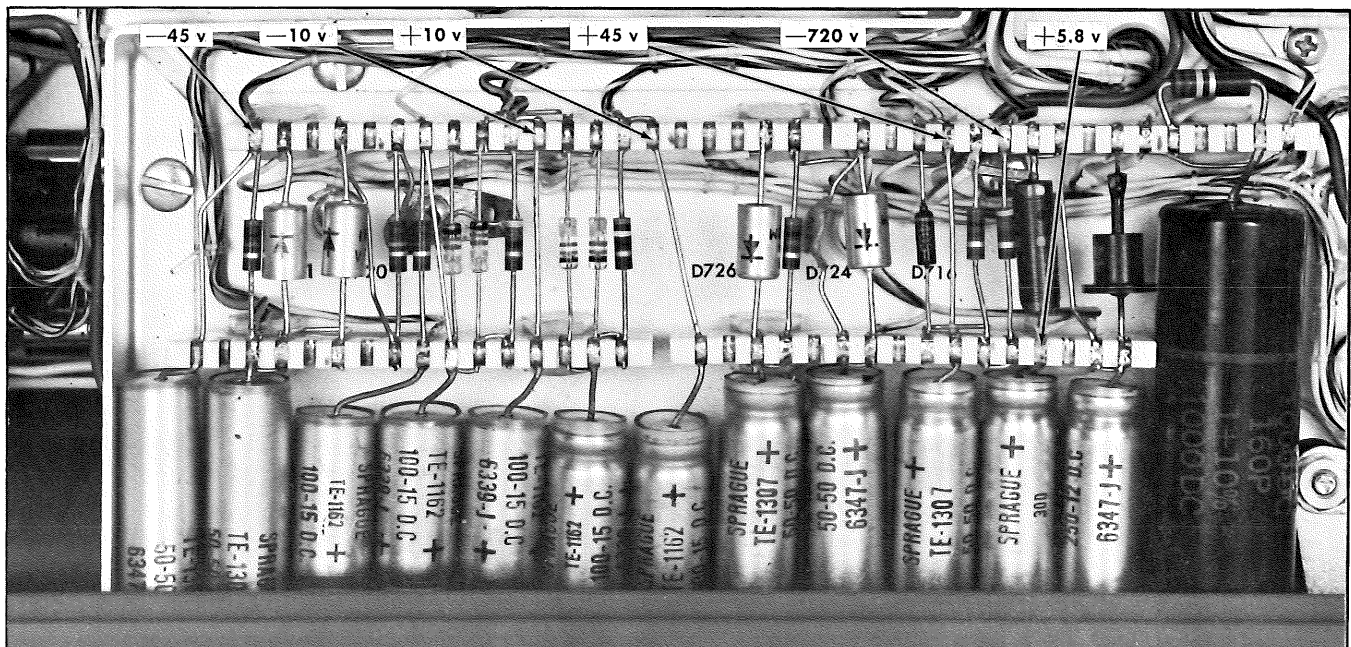

Fig. 6-2. Test point locations for checking the Converter output voltages (bottom right-side view).
- Using Table 6-1 as a guide, check the supply voltage and output voltage ripple of each of the supplies listed. Refer to Fig. 6-2 for location of all test points except 3.3 kv which can be found by referring to Fig. 5-2 or Fig. 6-6. Use the dc voltmeter to check the supply voltages. Use the test oscilloscope with a  $1\times$  probe to check ripple voltage.